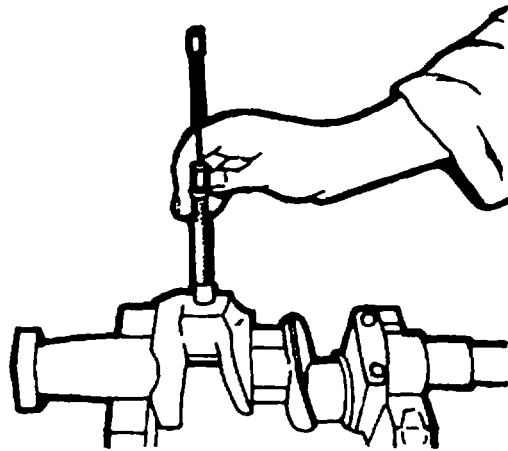

Figure 5-67. Measuring Journal Hardness with Scleroscope
1. Determine the hardness of the journal surfaces with a hardness tester (figure 5-67). Conversions of the readings to Rockwell C hardness values, for comparison with the specifications (table 4-5), can be effected with the table included with the instrument.